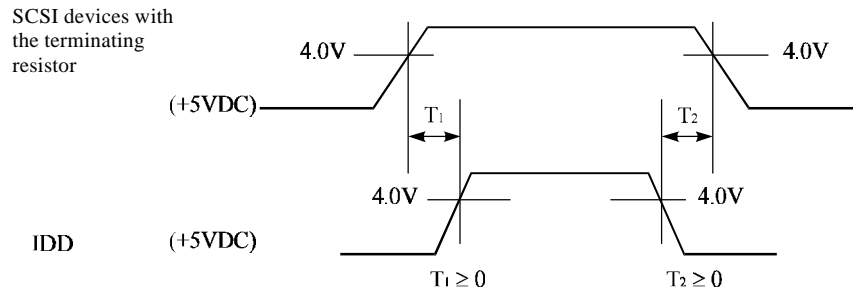

Figure 4.15 Power on/off sequence (2)
- c) In a system which does not use the terminating resistor power supply signal (TERMPWR) on the SCSI bus, the requirements for +5 VDC given in Figure 4.15 must be satisfied between the IDD and the SCSI device with the terminating resistor circuit.